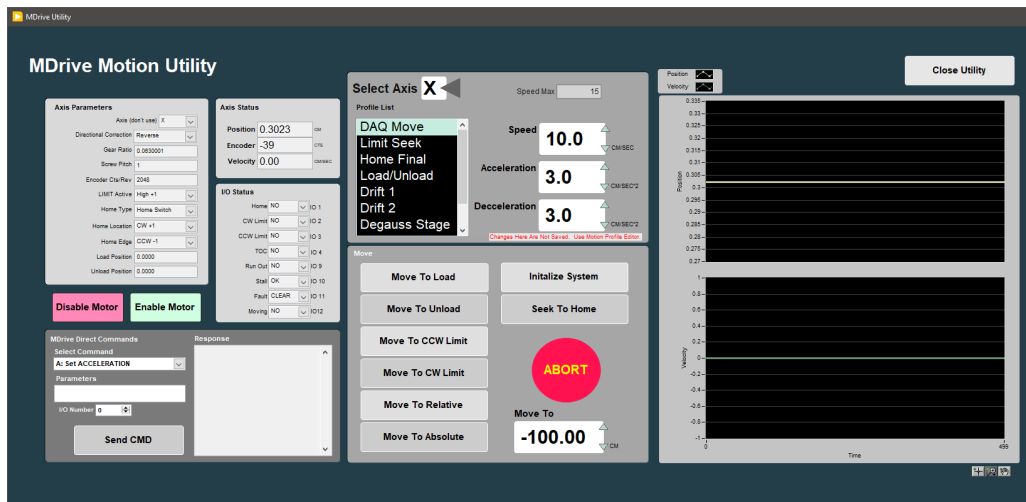

Figure 63- Motion Utilities Window
- Click the **Motion Utility** button to open the Motion Utility window (**Figure 63**) and test the settings. Click **Close** to exit this window.
- **Track Length:** Distance in cm between the limit switches. Use the Motion Utility (Figure 63) to determine this value by moving from limit switch to limit switch plus the length of the tray used.
- **User Define:** This profile is used for testing only in the **Motion Utilities** (**Figure 63**) program.
- Click the **Motion Utility** button to open the **Motion Utility** (**Figure 63**) window and test the settings.